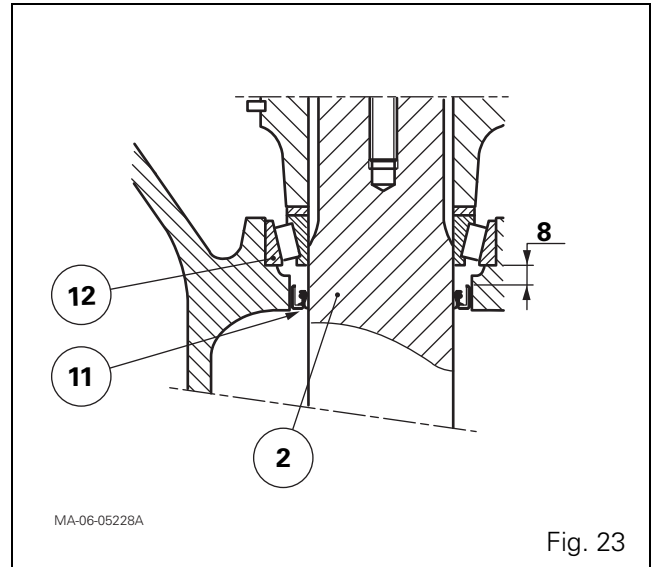
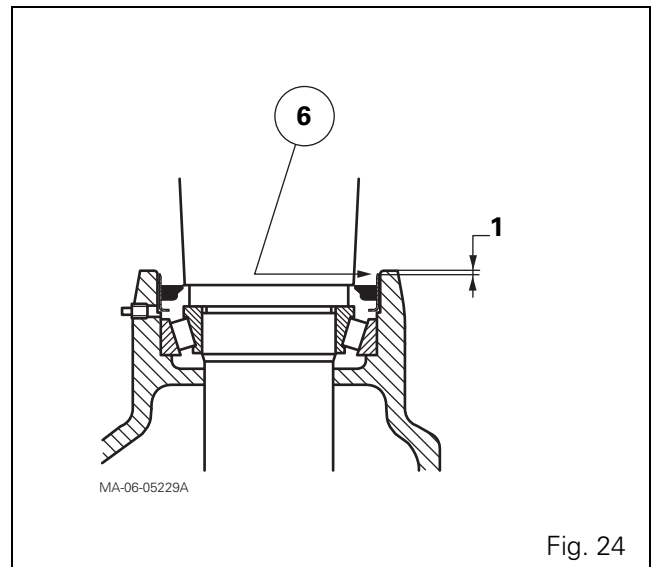

Fig. 23
Fig. 24
75. Smear the external surface of the seal (11) with a film of clean transmission oil.
76. Using a suitable fitting drift, fit the seal (11) to within approximately 8 mm of the shoulder of the cup (12) on the trumpet housing, positioning its lip towards the bearing cone (Fig. 23).
- IMPORTANT:** If a groove has been worn into the axle shaft at the location of the old seal (11), offset the new seal slightly so that its lip ensures the axle shaft is completely sealed beyond the worn groove.
- the bearing cups (8) (12) against their respective shoulders;
- the friction cage (6) according to the distance indicated:
- Fig. 24 (tractors fitted with GTA1040 transmission);